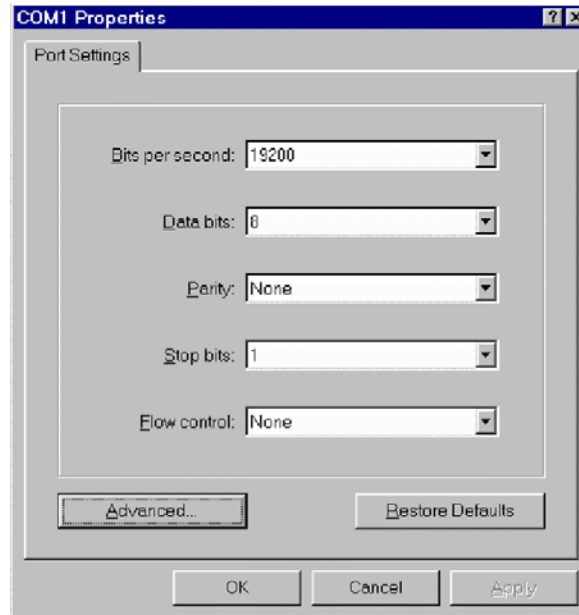

Figure 19. COM1 Properties window
- Configure your COM port settings as shown in figure 19, then click **OK**.